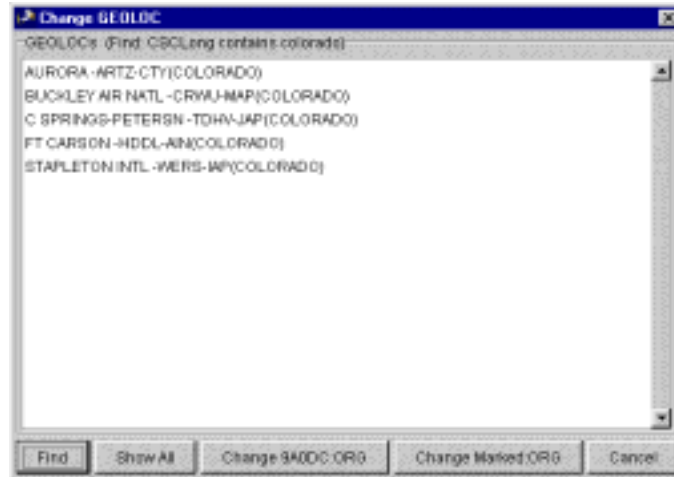

Figure 5.58 Change GEOLOC Window
9. On the Select GEOLOC Filter window, click OK. The Select GEOLOC Filter window closes, and the RLNs having the selected GEOLOC search parameters are displayed in the Change GEOLOC window (Figure 5.58).